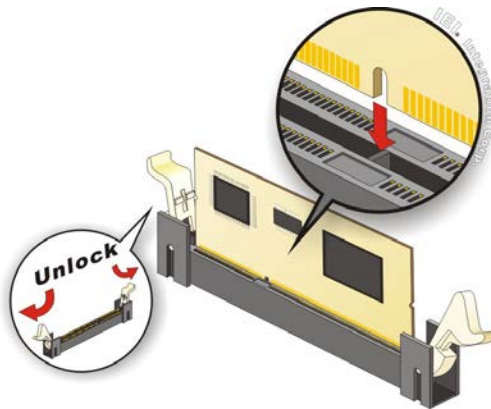

Figure 4-7: iRIS-2400 Module Installation
To install the iRIS-2400 module, please follow the steps below and refer to **Figure 4-7**.
See **Figure 4-7**.
the notch on the module lines up with the notch on the socket. See **Figure 4-7**.
Step 4: Insert the iRIS-2400 module. Once aligned, press down until the iRIS-2400 module is properly seated. Clip the two handles into place. See **Figure 4-7**.